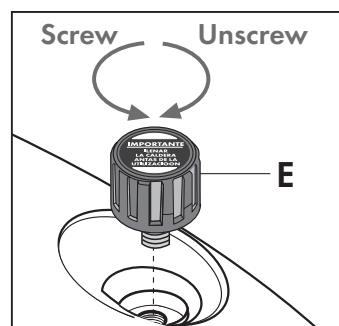

Fig. 4
- loosen the cap on the fill bottle (R) provided;
- manually open the boiler fill cap (E) by pressing the cap downwards while rotating it anticlockwise; **(Fig. 4)**